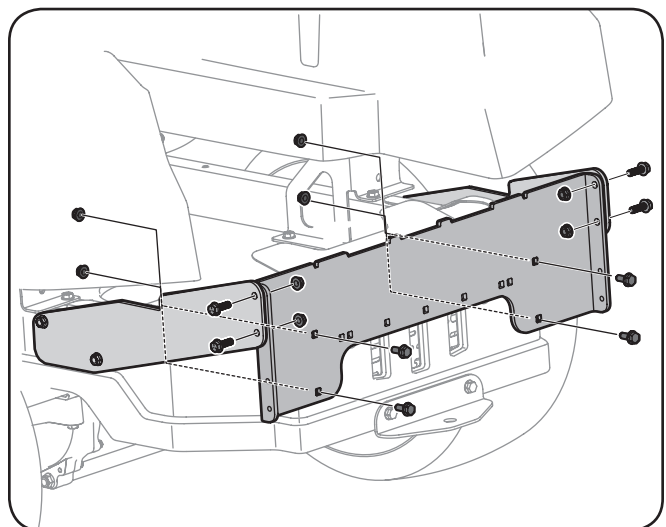

Figure 4-3
4. Install the bagger cross-support bracket with the flange facing outward, as shown in Figure 4-3, by attaching it to the side support brackets using four 710-04048 hex screws and 712-3004A flange lock nuts from hardware pack 689-00338.
5. Further secure the bagger cross-support bracket to the tractor by installing four 710-04043 hex screws through the cross-support bracket and into the rear of the tractor frame. Secure using four 712-3004A flange lock nuts from hardware pack 689-00338. See Figure 4-3.